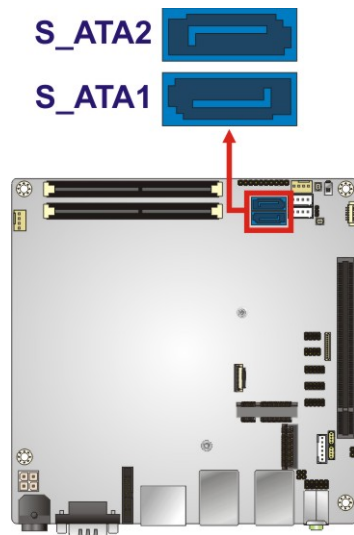

Figure 3-22: SATA 6Gb/s Drive Connector Locations
- CN Location:** See **Figure 3-22**